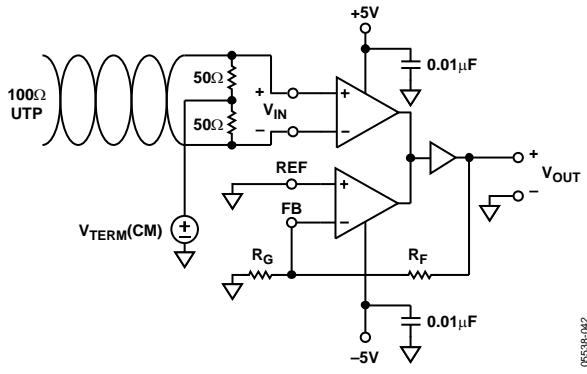

Figure 41. Common-Mode Termination
Some applications require common-mode terminations for common-mode currents generated at the transmitter. In these cases, the $100\ \Omega$ termination resistor is split into two $50\ \Omega$ resistors. The required common-mode termination voltage is applied at the tap between the two resistors. In many of these applications, the common-mode tap is connected to ground ($V_{TERM\ (CM)} = 0$). This scheme is illustrated in Figure 41.